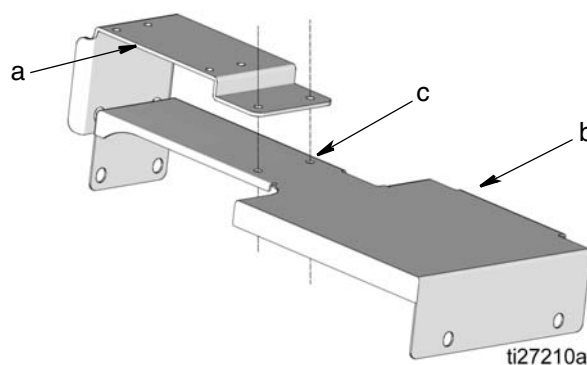

FIG. 40
3. Square up and align the adapter bracket (a) to the narrow end of the filter cover (b) as shown in FIG. 40. Mark the locations of the mounting holes (c) on the bracket. Drill holes through the filter cover.